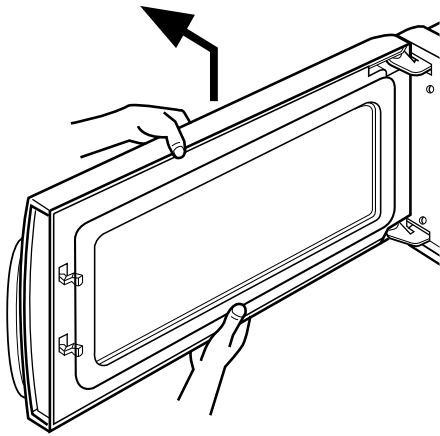

Figure 15
- (1) Remove one rivet ASS'Y securing it to the oven upper plate by using knife blade.
- (2) Rotate slightly and pull out the stirrer fan cover.
- (3) Remove the stirrer fan.
F. REMOVING DOOR (Figure 15)
- (1) Remove the vent grille by two screws securing it to the outcase loosening.
- (2) Lift up and draw the door.